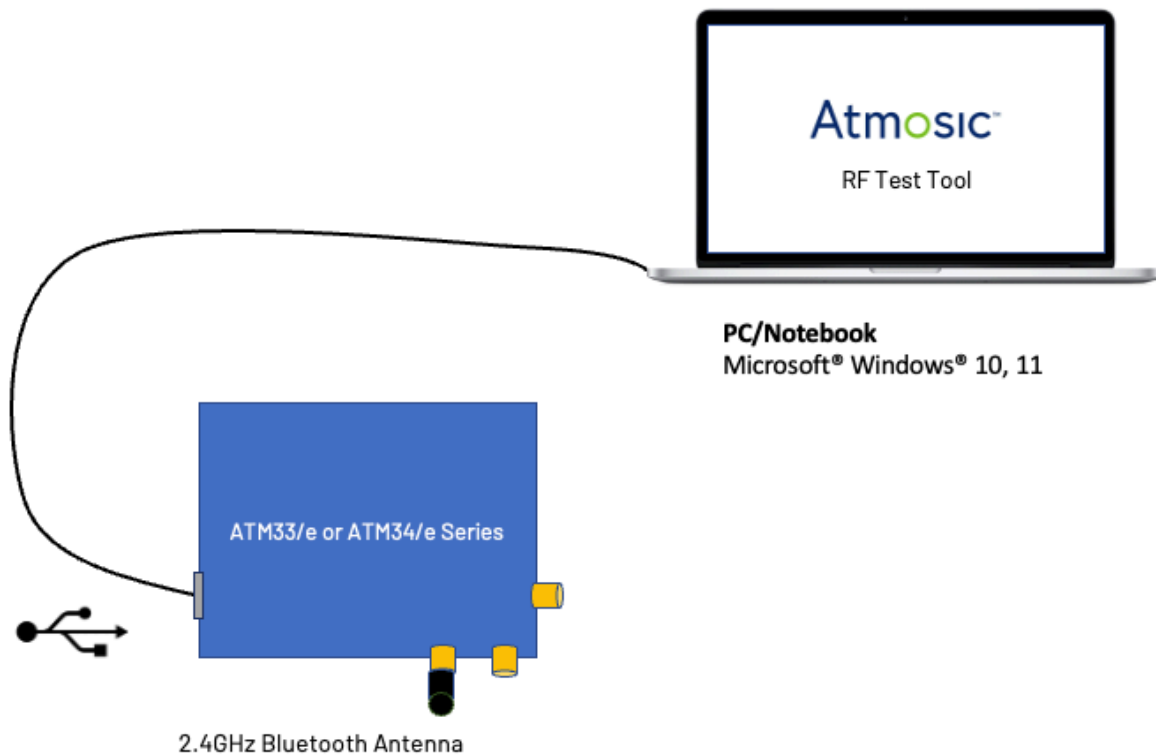

Figure 2 - RF Test Tool Hardware Environment for the ATM33/e or ATM34/e
- Figure 2 - RF Test Tool Hardware Environment for the ATM33/e
Figure 2 shows the connection setup between the PC and the ATM33/e Evaluation Board (EVB).